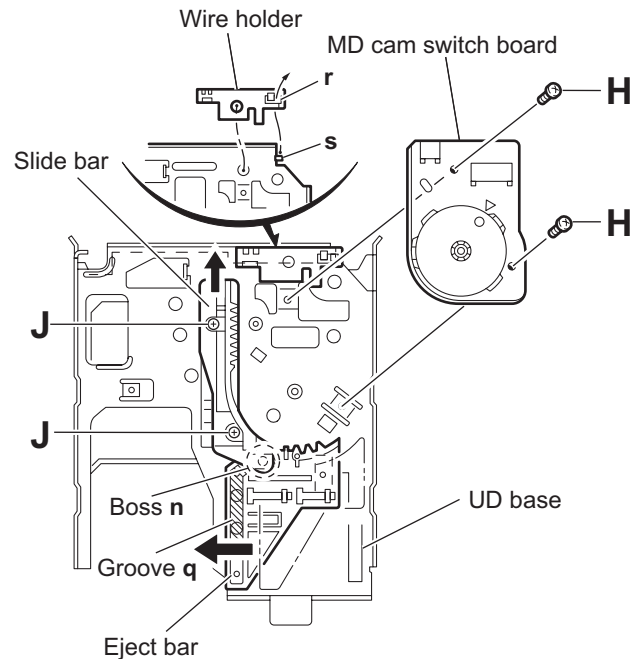

Fig.22
(See Figs.22 and 28)
- (3) Move the slide bar and eject bar in the direction of the arrow as shown in Fig.22 and reattach the cartridge holder assembly using the two screws **J**. (See Figs.22 and 23.)
- (4) Reattach the wire holder to the UD base while engaging the hook **s** of the UD base to the slot **r** of the wire holder. (At the same time, the boss on the reverse side of the wire holder is fitted to the round hole of the UD base.) (See Fig.22.)
- (5) Reattach the MD cam switch board using the two screws **H**. (See Fig.22.)